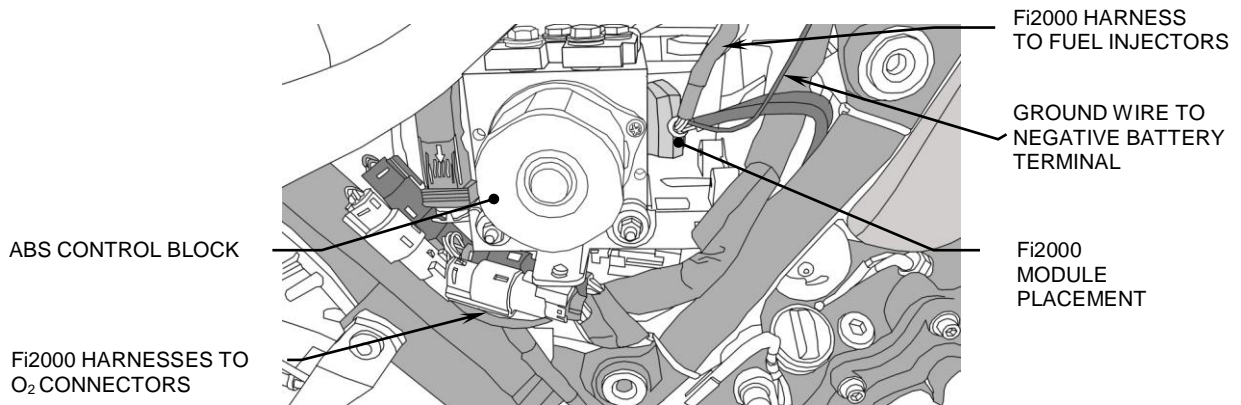

FIGURE 2
4. Place the Fi2000 case and harness on right side of the motorcycle between the large wire harness and ABS control block, under the right side panel area, see Figure 2. Route the main fuel injector harness and ground wire under the right frame rail and upward to under seat area. Open the plastic wire loom sheath by removing the ziptie attaching it to the frame and place the injector harness inside of it, towards the right side, route connectors forward to area between cylinder heads, see Figure 3.
8. Attach the ground wire from the Fi2000 to the negative battery terminal. Velcro the Fi2000 case to the side of the ABS control block, see Figure 2.